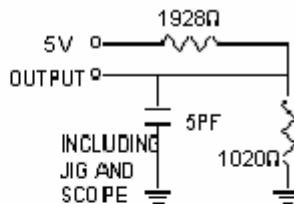

FIGURE 1B
5. Transition is measured $\pm 500\text{mV}$ from steady state with $C_L = 5\text{pF}$ as shown in Figure 1B. The parameter is guaranteed but not 100% tested.
10. Transition is measured $\pm 500\text{mV}$ from steady state with $C_L = 5\text{pF}$ as shown in Figure 1B.